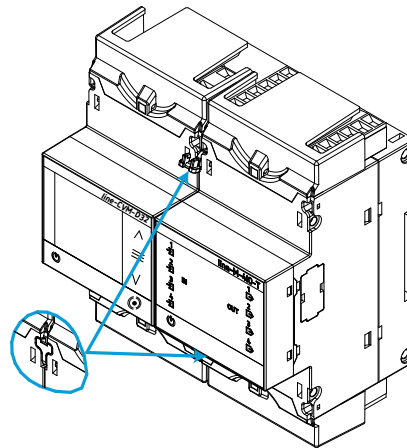

Figure 5: Installation step 3.
3.- Connect both devices and fasten them by pushing the front clips down (Figure 5).